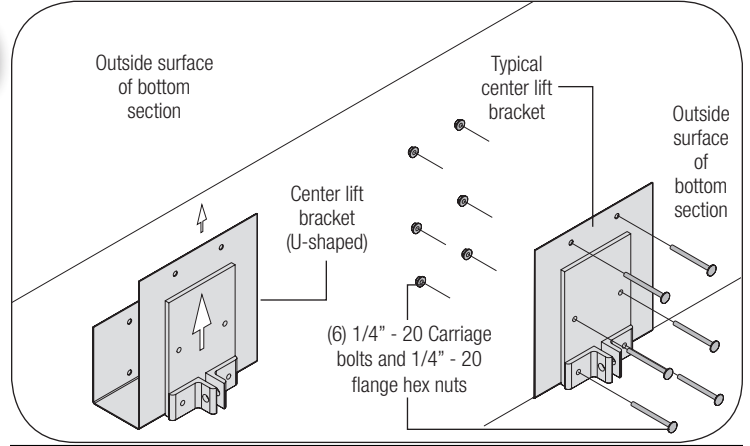
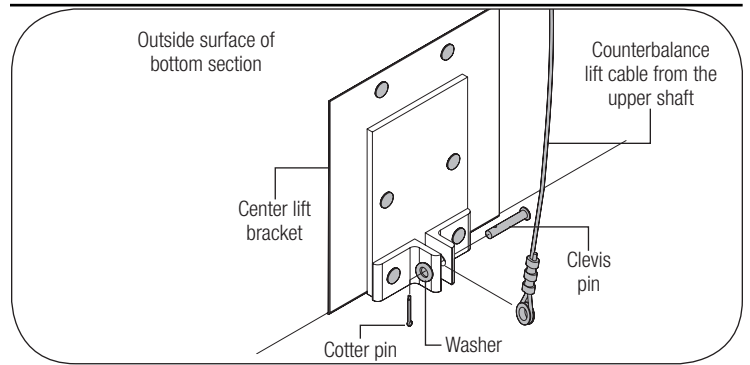
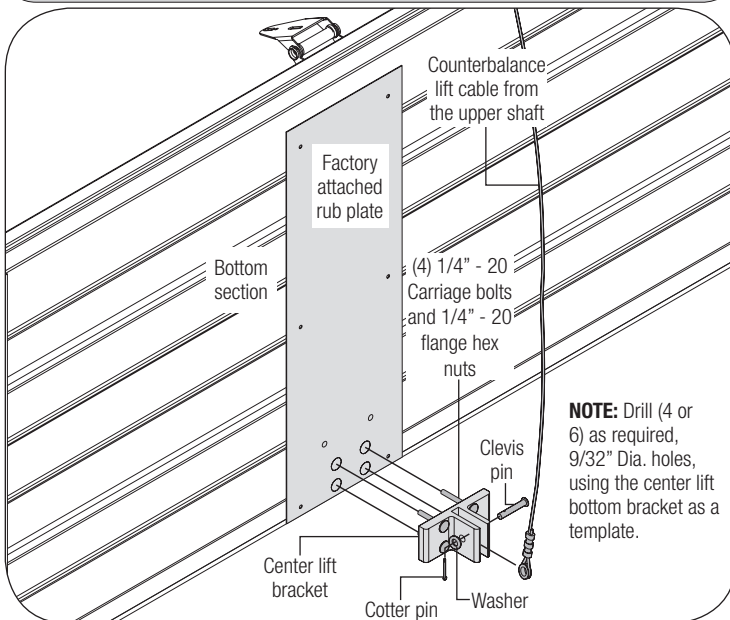

FIG. 1.1
FIG. 1.2
FIG. 1.3
**NOTE:** Using the illustrations shown in FIG. 1.1, FIG. 1.2 and FIG. 1.3, determine which type of center lift bracket(s) you have.
Using the center lift bracket as a template, secure the center lift bracket to the bottom section using the appropriate 1/4" - 20 carriage bolts and 1/4" - 20 flange hex nuts, as shown in FIG. 1.1, FIG. 1.2 and FIG. 1.3. Secure the cable loop to the clevis pin using a flat washer and a cotter pin, as shown in FIG. 1.2 and FIG. 1.3.
**NOTE:** If your center lift bracket is u-shaped, slide the center lift bracket up underneath the bottom section, as shown in FIG. 1.1.